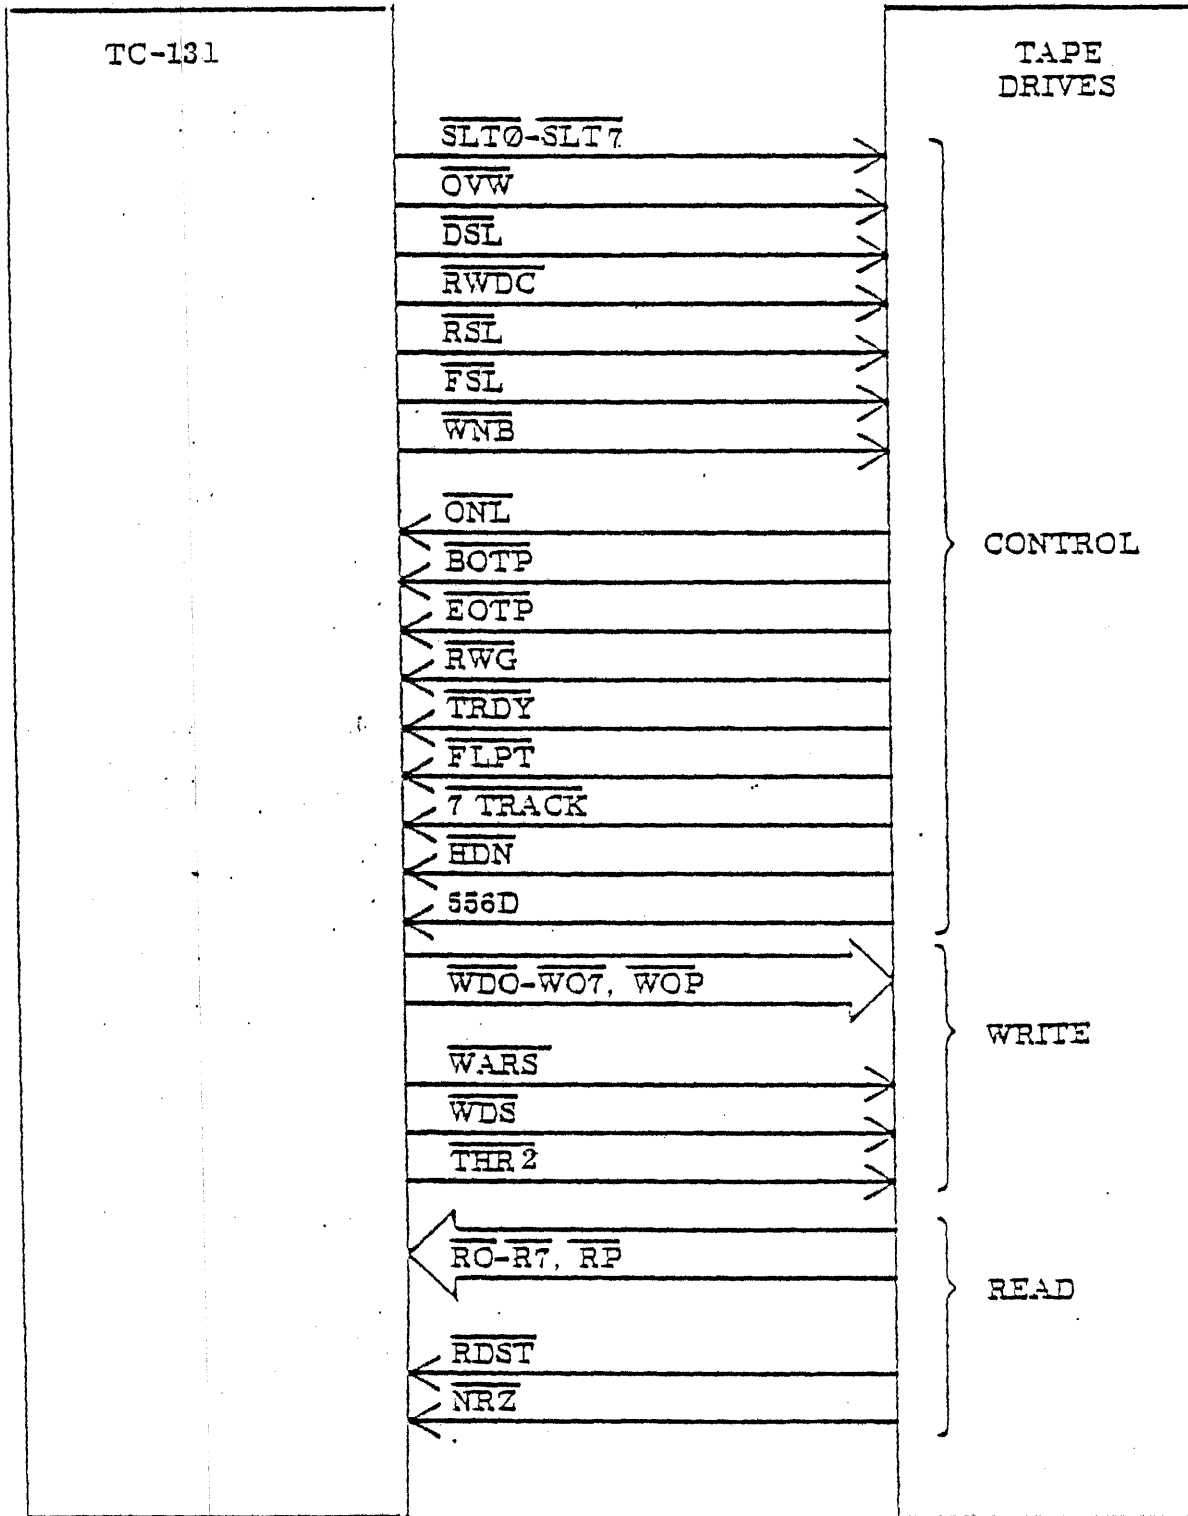

Figure 4-5 Tape Drive Interface
**4.16 INTERFACE SIGNALS.** Figure 4-5 shows the signals on the interface between the controller and the tape drives. Table 4-1 lists and describes these signals. The selected tape drive returns status signals to the controller that indicate the type of tape drive, as shown in Table 4-2.